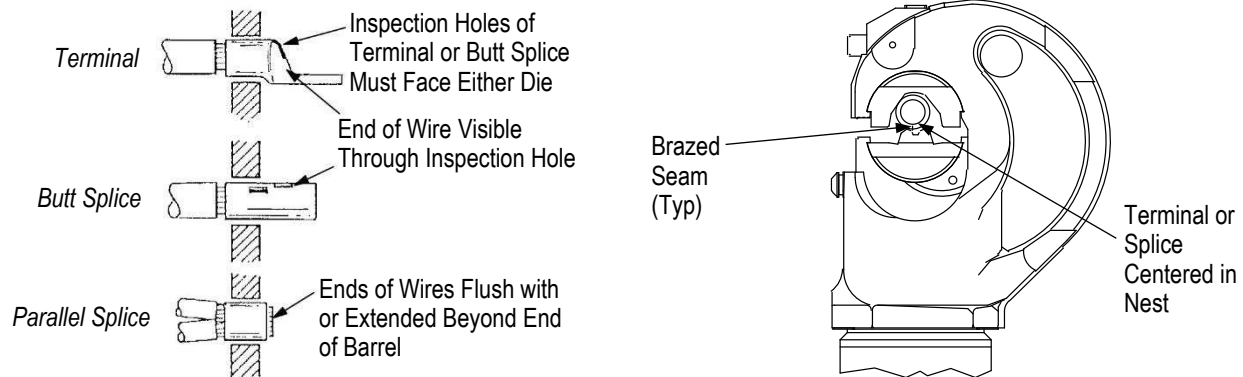

Figure 5
2. Center terminal or splice in nest as shown in Figure 5. For best results, when brazed seam on terminal or splice is visible, position seam toward indenter.